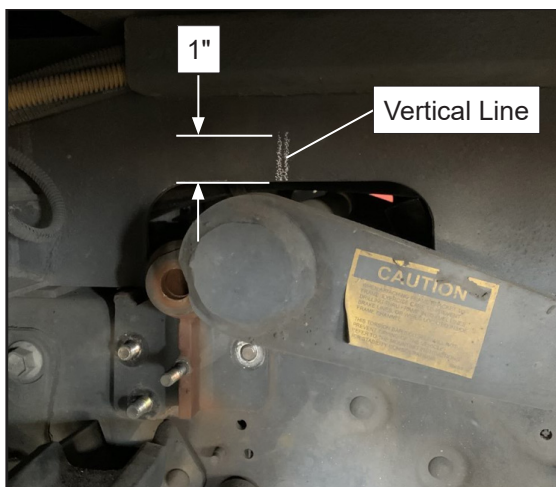

Figure 13 — Marking Centerline for Notch
21. Draw a vertical line 1" tall on the outside of the street side body runner channel directly above the top of the torsion bar swing arm (refer to Figure 13).